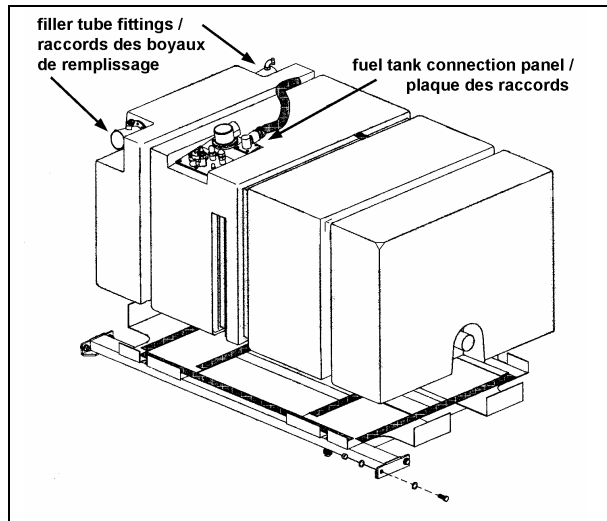

FIGURE 3: FUEL TANK DETAIL
3. Unscrew clamps retaining L.H. side and R.H. side filler tubes to the fuel tank and then disconnect both tubes (figure 3).
4. Unscrew engine supply and return lines from fuel tank connection panel (figure 3). To ease reinstallation, identify the lines.